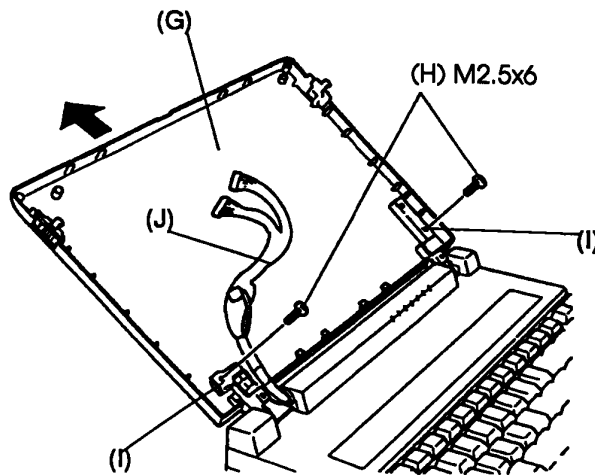

Figure 4-30 Removing the display cover and screw
5. To remove the rear display cover (G), remove the two (M2.5x6) screws (H) from the display support (I) (Figure 4-30).
6. Install the rear display cover of the plasma display. Secure it with the two (M2.5x6) screws to the display support (Figure 4-30).